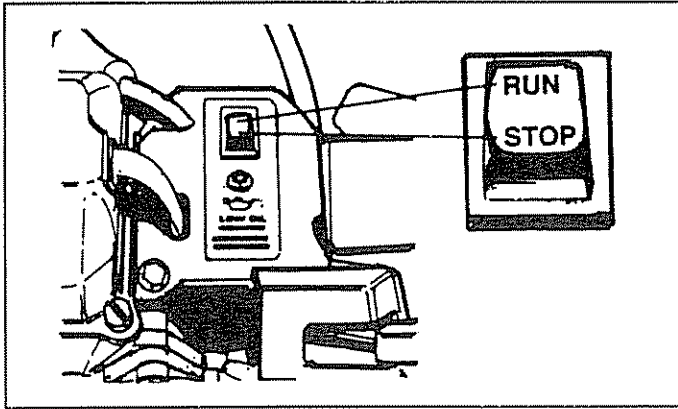

FIG. 10
- First, move engine RUN/STOP switch to "OFF" position (Fig. 10).